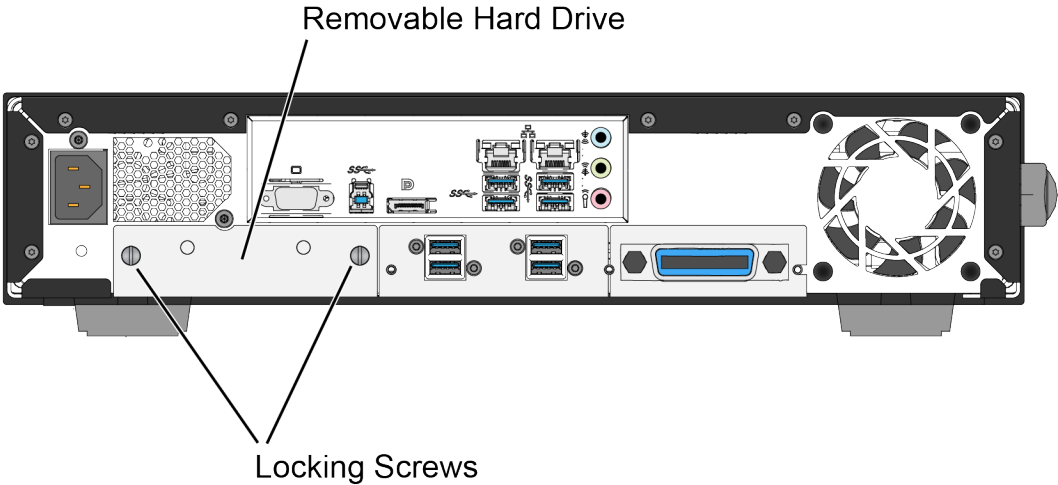

Figure 7. Removable Hard Drive
3. Locate the drive on the N1002A's rear panel as shown in Figure 7.